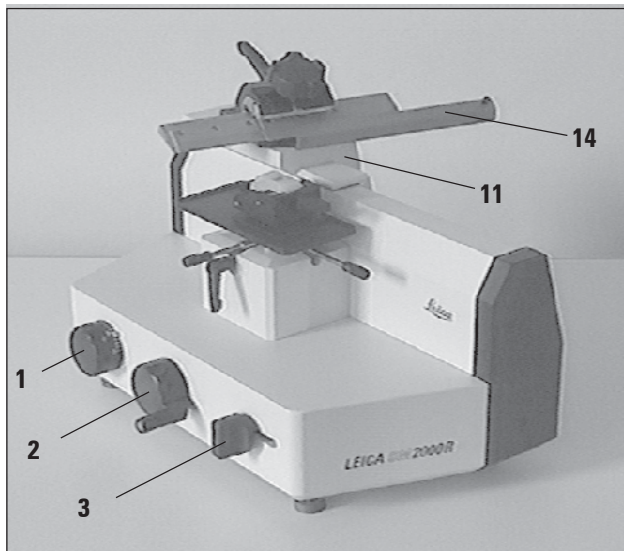

Fig. 15.1
- Select the required section thickness with the section thickness adjusting knob (1, Fig. 15.1).